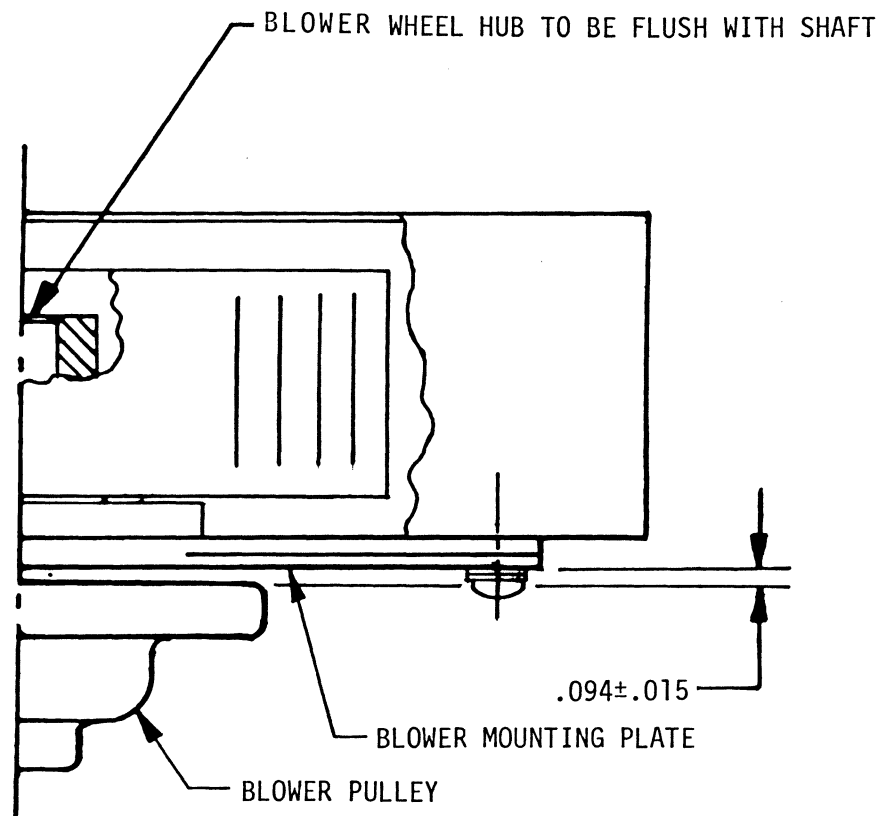

Figure 5-23
- g) Install new blower spindle to plate using the four screws previously removed. Re-install blower wheel and blower pulley and position to dimensions shown in Fig. 5-23.